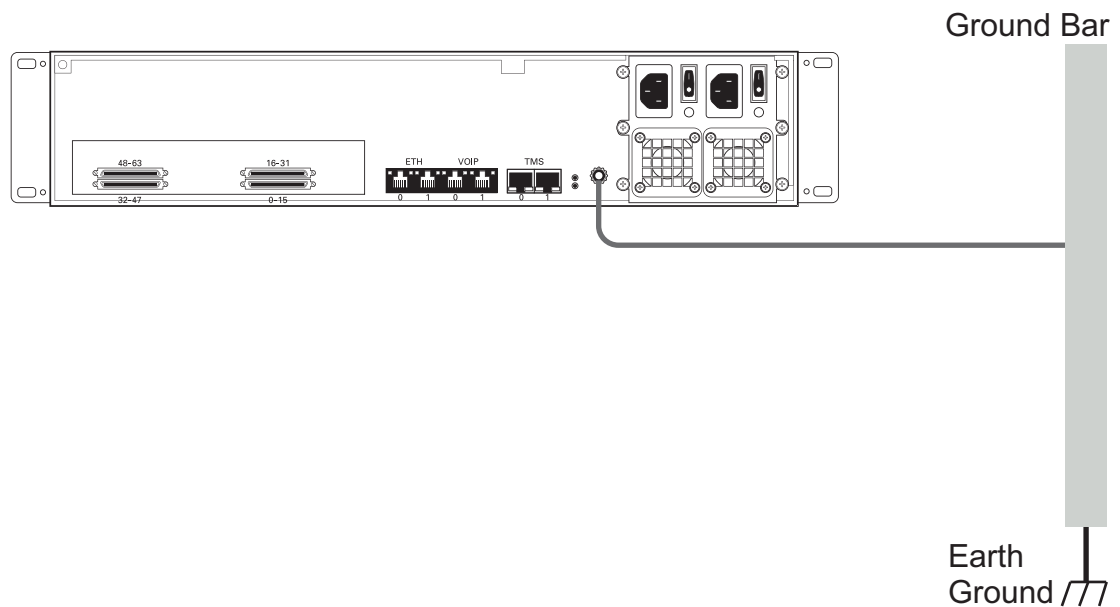

Figure 4.10 Chassis Ground Connection
- Do NOT daisy chain the ground between equipment. Use a ground bus bar, as show in figure 4.10 on page 35.
1. Connect one end of a ground wire to the ground lug of the 7800 Telecom unit. See figure 4.10 on page 35.